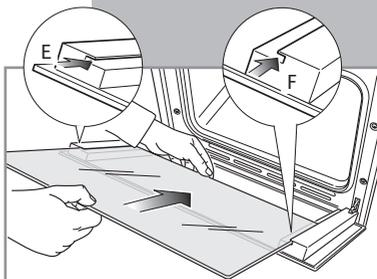

Fig. 23
- Insert the pane in the left **E** and right **F** slide guides (fig. 23), and gently slide it to the retainers **H** (fig. 24).